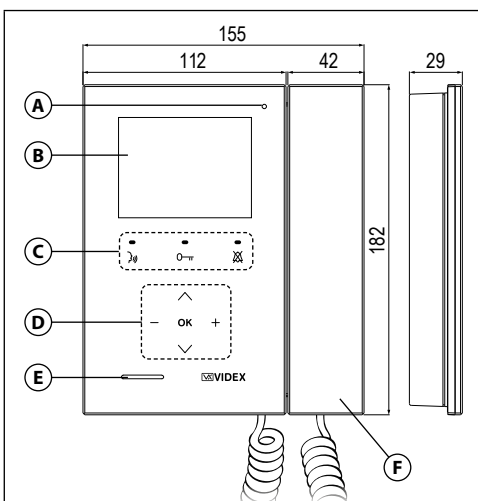
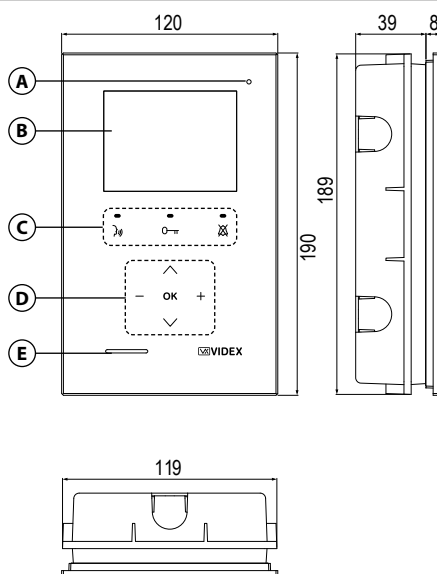

Fig. 1 Art. KRV86 front
Fig. 2 Art. KRV88 front
1. Place the surface box against the wall (165-170cm between the top of the box and the floor level as shown in **Fig. 1**) and mark the fixing holes for the wall plugs and the hole for the cables **(E)** (**fig. 2**). Observe the orientation of the box with the hinge on the left;
2. As shown on **Fig. 2**, drill the fixing holes **(A)**, insert the wall plugs **(B)** and feed the cables **(E)** through the surface box opening **(D)**, fix surface box **(C)** to the wall using the screws **(F)**;
1. Protect the module support frame fixing holes from dust then embed the back box into the wall (165-170cm between the top of the box and the floor level as shown on the **Fig. 1**) feeding the cables **(E)** (**Fig. 2**) through a previously opened hole in the box. Observe the direction of the box ensuring the hinge is on the left and take care that the box profile is in line with the finished wall profile;